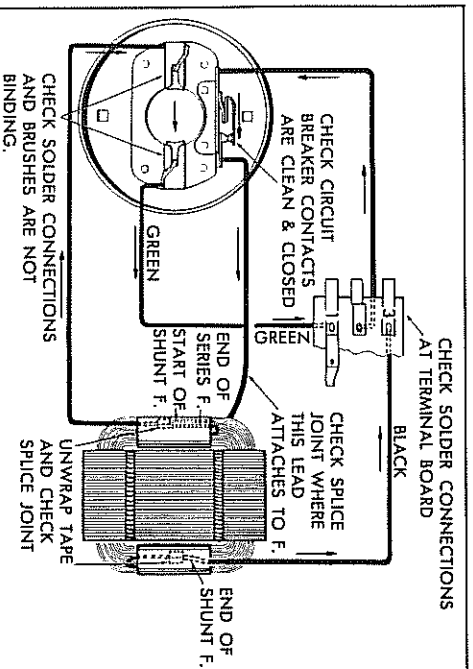

Fig. 17—Shunt Field Circuit
- d. Connect up leads as required (Fig. 17).